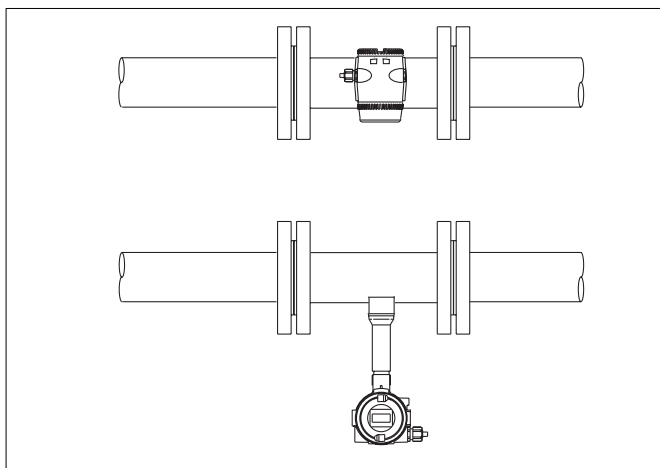

Fig. 11 Installations for High Fluid Temperatures >150 °
- for high fluid temperatures the flowmeter primary should be installed so that the electronic assembly is mounted at the side or bottom of the flowmeter (Fig. 11).